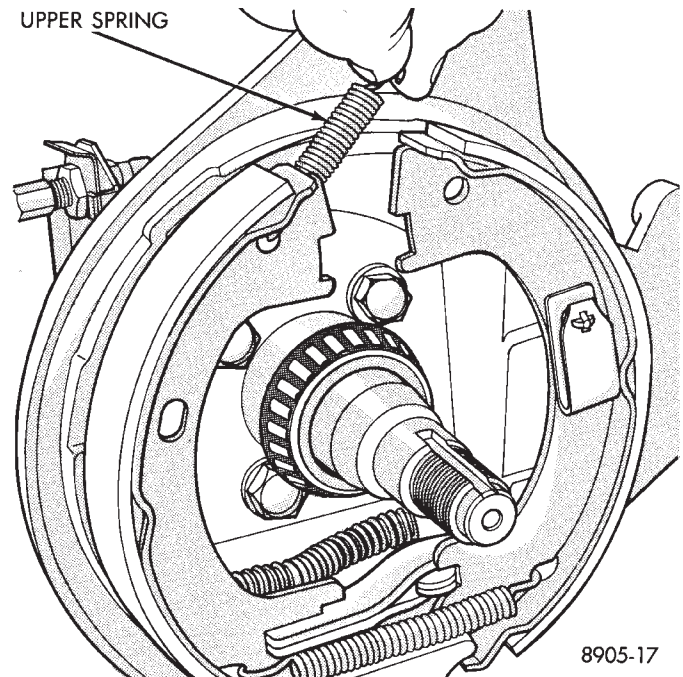

Fig. 3 Removing Upper Spring
(9) Remove upper parking brake, shoe to shoe spring (Fig. 3).